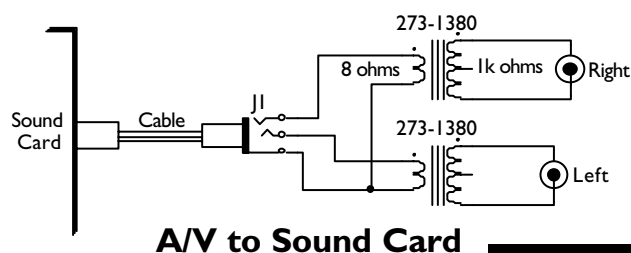

Figure 4
A. You have an impedance mismatch. The sound card has a 32 Ω output to match the impedance of a typical headset. On the other hand, your A/V equipment is expecting a 10K input impedance. A not so perfect, but easy, solution is to insert an audio output transformer between the two. RadioShack sells one (273-1380) for \$2.99. You'll need two: one for the left channel and another for the right channel. Here's how to wire them (Figure 4).